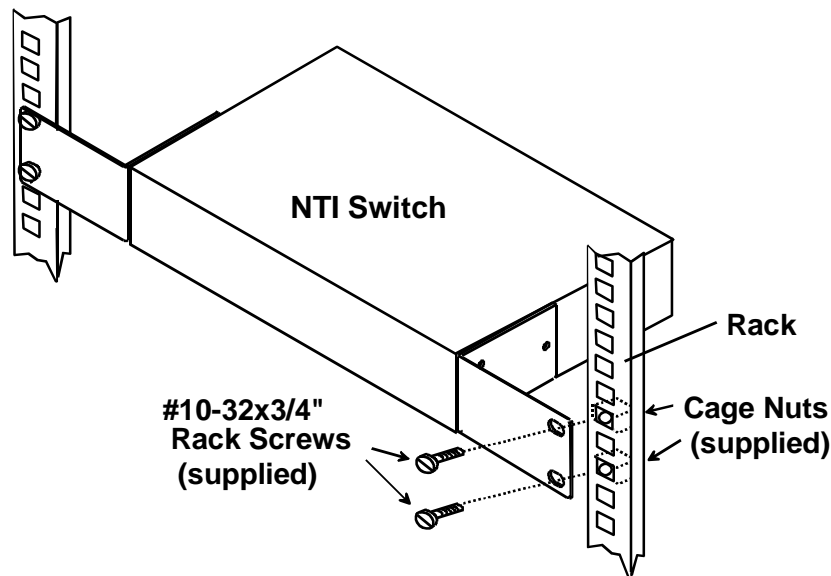

Figure 2- Secure switch to a rack
4. Connect a monitor to the 15HD female connector labeled MONITOR 1 on the rear of the VEEMUX (See Fig. 2).